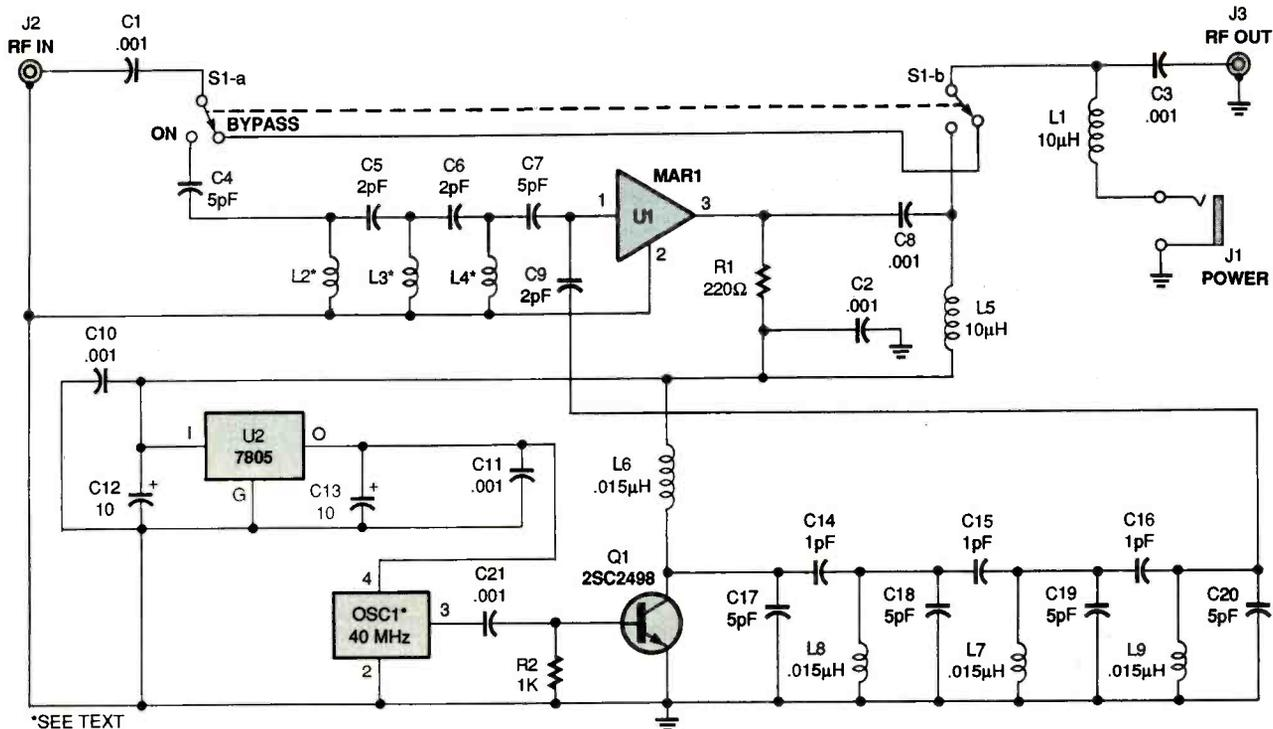

Fig. 2. At the heart of the Converter circuit is OSC1, a 40-MHz oscillator module. Only the 10th harmonic at 400 MHz is presented to the input of U1.
**Circuit Description.** Figure 2 is the schematic of the Converter. The circuit can be powered from any 9- to 12-volt DC source, including a good alkaline 9-volt battery. Switch S1 either puts the unit into its bypass mode, where a scanner connected to J3 will receive its normal signals, or it applies power to the circuit and down-converts all 800- to 950-MHz signals as follows: